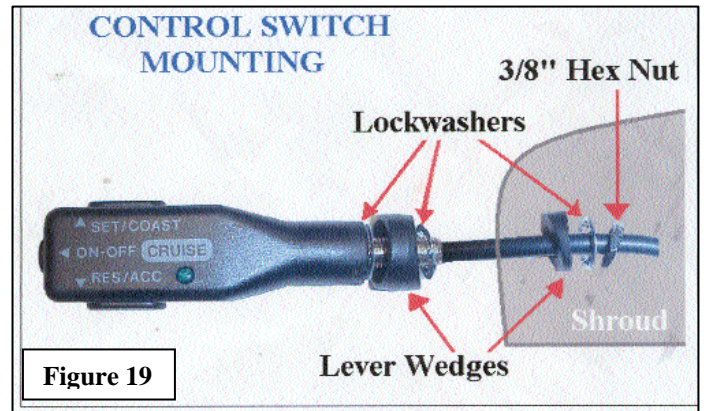

Figure 19
1. Use the **lever wedges** on the **Control Switch** at an angle template to drill a 3/8" or 9.5mm hole in the lower shroud of the steering column cover. Position lock-washers as shown. **Figure 19**